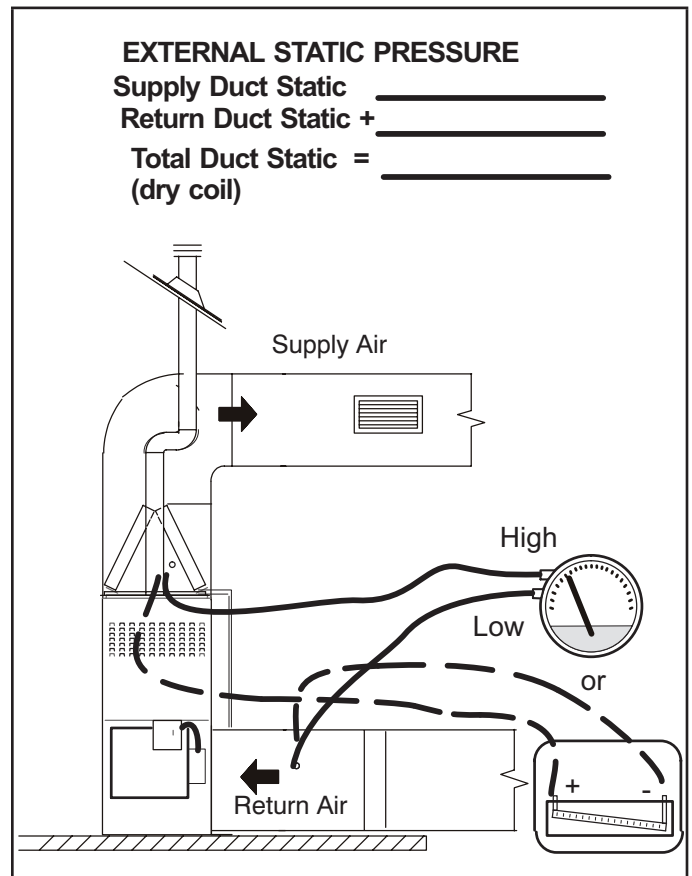

FIGURE 29
- 1 - Tap locations shown in FIGURE 29.